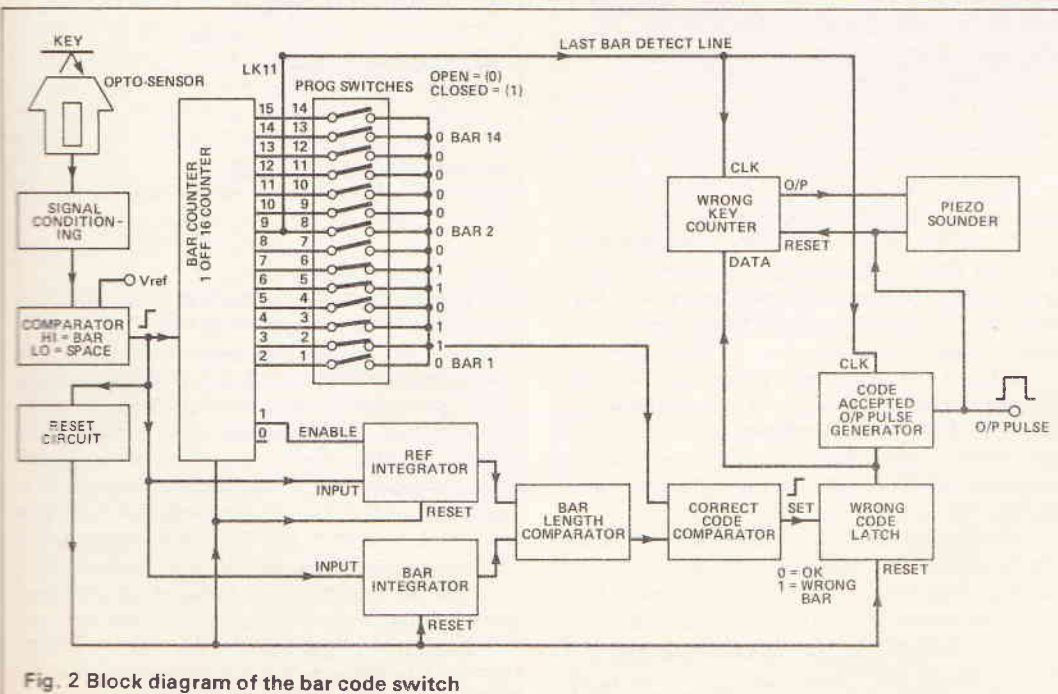

Fig. 2 Block diagram of the bar code switch
The operation of the bar code switch can best be understood by looking at the block diagram in Fig. 2. The optical sensor consists of a LED which emits light onto the surface being scanned. Light will be reflected back to its receiver from white spaces. The output from this is amplified and filtered before being compared with a reference voltage (by the bar comparator) to determine whether a bar or space is present. Its output will be low (0) for a space and high (1) for a bar.